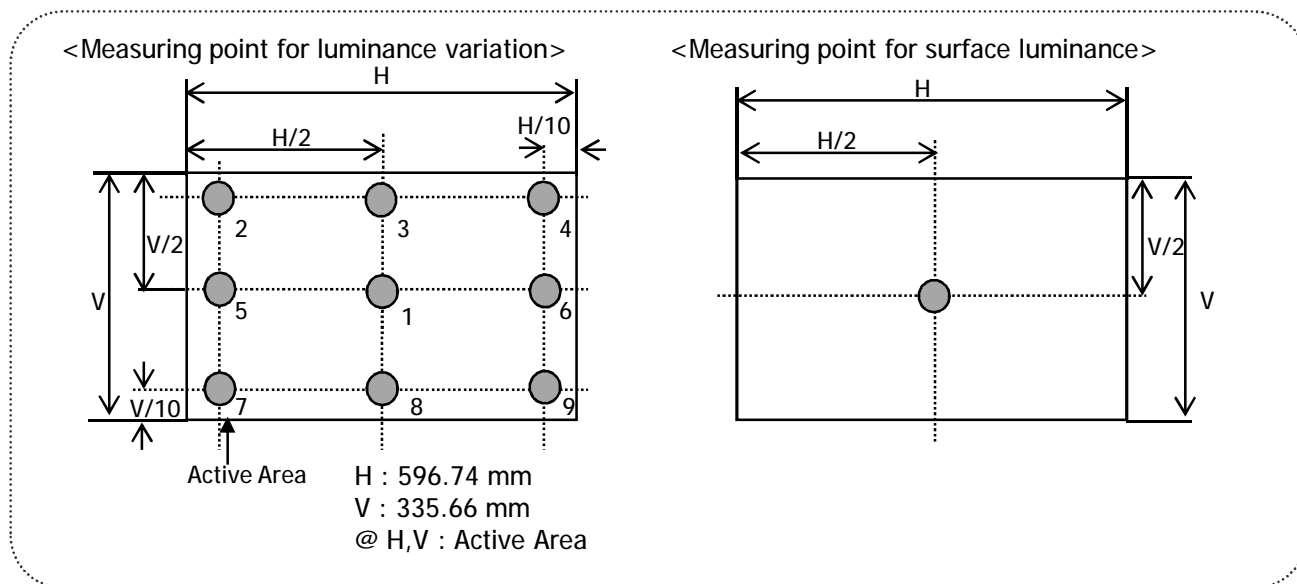

FIG. 2 Measure Point for Luminance
2. Surface luminance(L_{WH}) is luminance value at center 1 point(1) across the LCD surface 50cm from the surface with all pixels displaying white. For more information see FIG 2.
For more information see FIG 2.